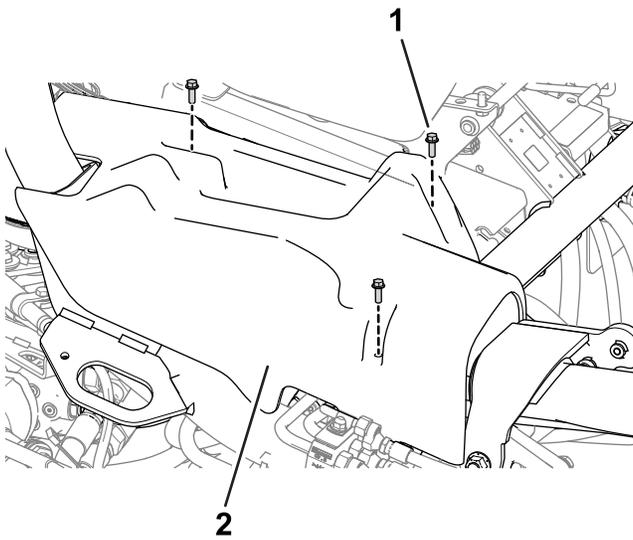

**Figure 8**
3. Install the connector labeled P02 on the telematics wire harness to the telematics device (Figure 8).